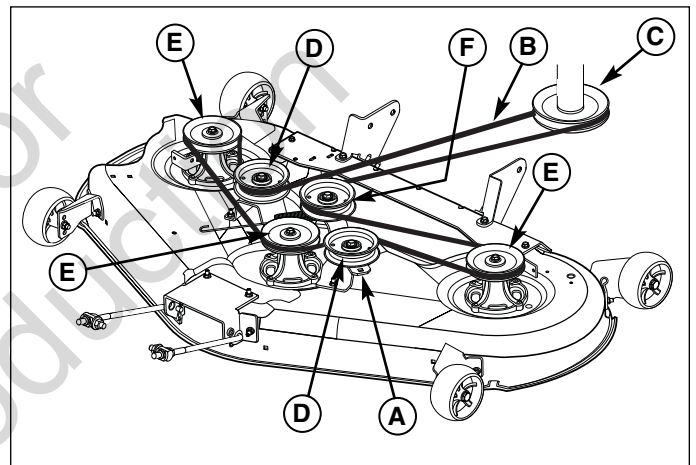

Figure 16. Mower Belt Routing
3. Pull back on the tensioning idler (F, Figure 16) in the direction indicated by the arrow, and remove the mower belt from the PTO pulley (C).
6. Pull back on the tensioning idler (D, Figure 16) in the direction indicated, and install the belt onto the PTO pulley as shown in Figure 16.